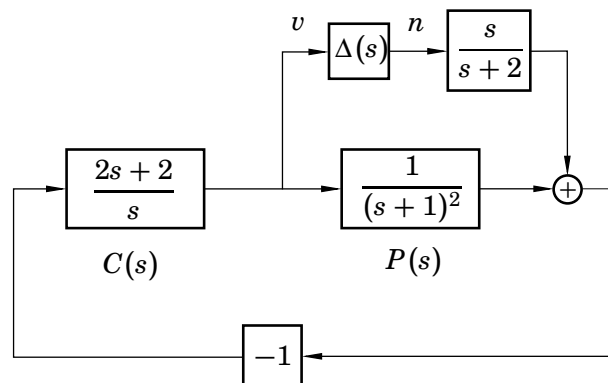

Figure 3.2 System for Problem 3.2.
- 3.2** Consider the system in Figure 3.2.
- c.** What is the difference between the uncertainty model in this problem and the one in Figure 3.2?